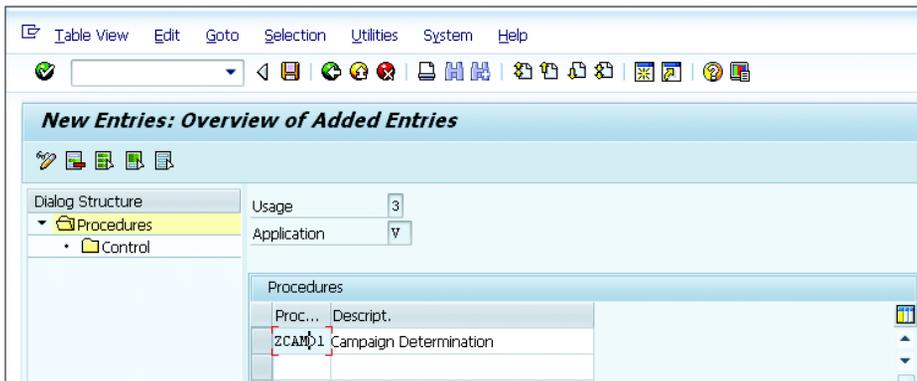

Figure 4.50 Maintaining the Campaign Determination Procedure
- Maintain the determination procedure via the menu path, SPRO • INTEGRATION WITH OTHER SAP COMPONENTS • CUSTOMER RELATIONSHIP MANAGEMENT • BASIC FUNCTIONS • CAMPAIGN DETERMINATION • MAINTAIN DETERMINATION PROCEDURE. Create the campaign determination procedure, and assign the condition type to the procedure, as shown in Figure 4.50.